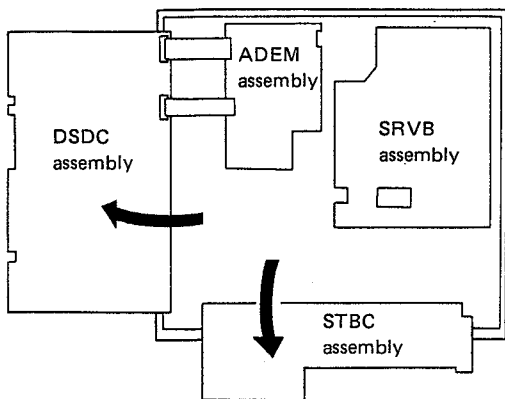

Fig. 10-2
2. Remove the four screws securing the DSDC assembly, then remove the two screws securing the STBC assembly, then open the board. (Fig. 10-2)